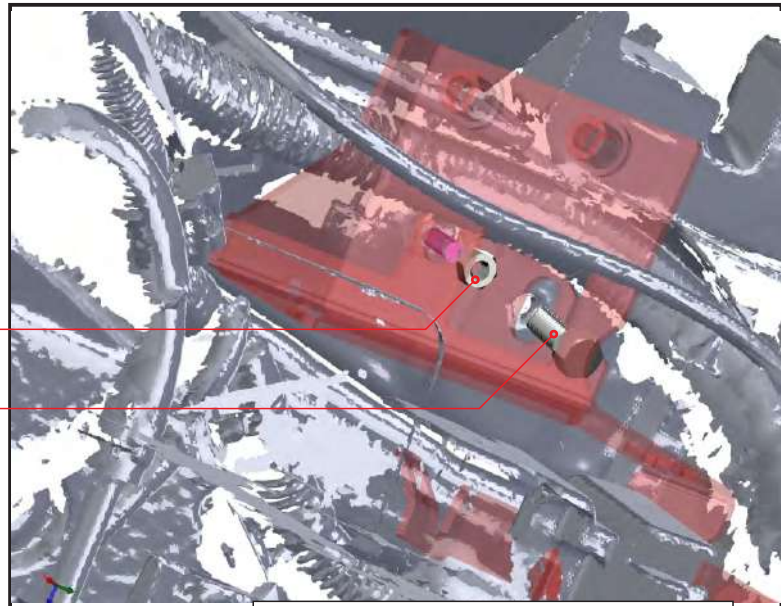

FIG. 4b FB9810FC BRACKET INSTALLATION
9. Screw in the remaining OEM M8 bolt saved from the previous steps into the firewall mounting point. Then install the supplied MS4040 M6 flange nut into the firewall stud as shown in Fig. 4b.